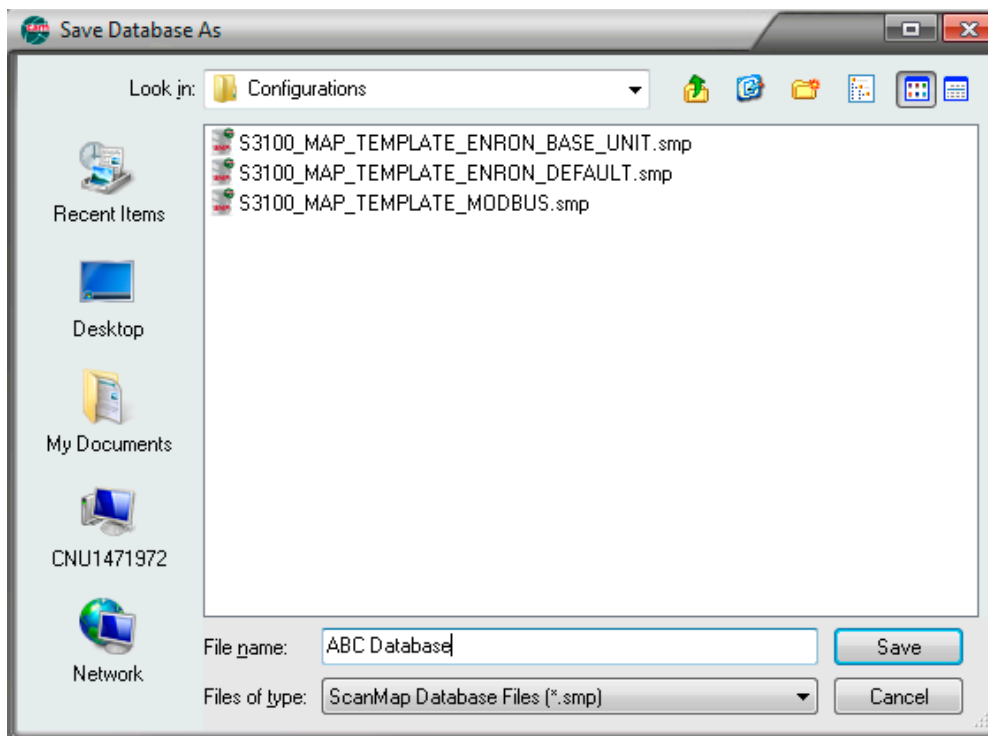

Figure 4.3—Save Database As dialog
3. From the “Firmware Version” dropdown menu, select a different firmware version if the map is being built for use with a different firmware version than the default version shown. The New Database dialog will close and a *Save Database As* dialog (Figure 4.3) will appear, populating the name selected in Step 2 as the database filename.
- In the *Save Database As* dialog (Figure 4.3, page 16), browse to the desired save location, enter a unique name in the “File Name” field and click **Save**.